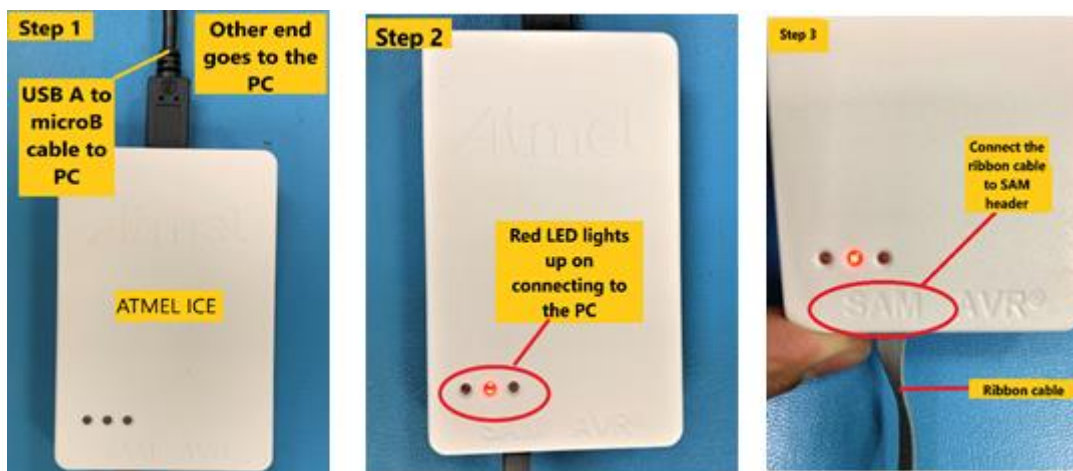
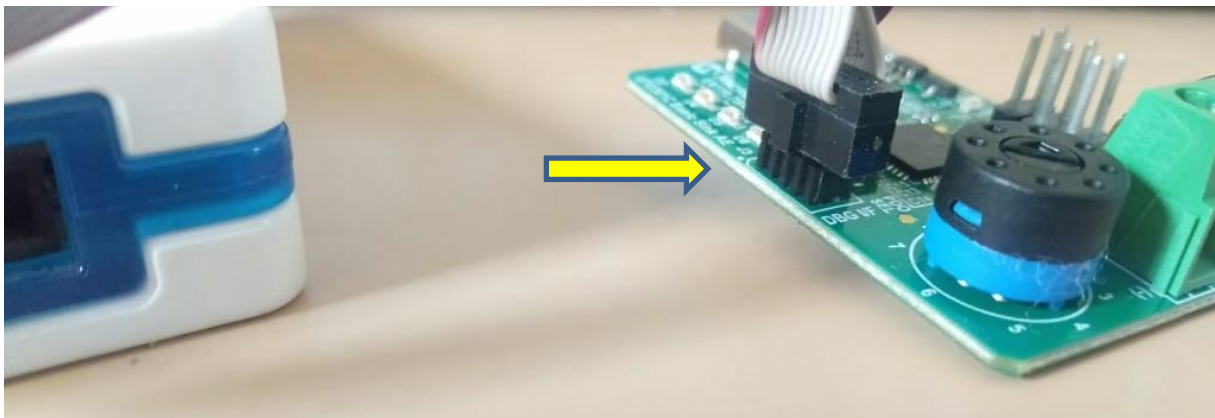

Figure 5.1 Atmel ICE Connection
Figure 5.2 Atmel ICE Connection onto the board
1. Connect one end of AtmelICE to PC using Micro-B cable and the other end of the Atmel ICE using a ribbon cable to J3 on the board as shown in the figure 5.1 and figure 5.2.